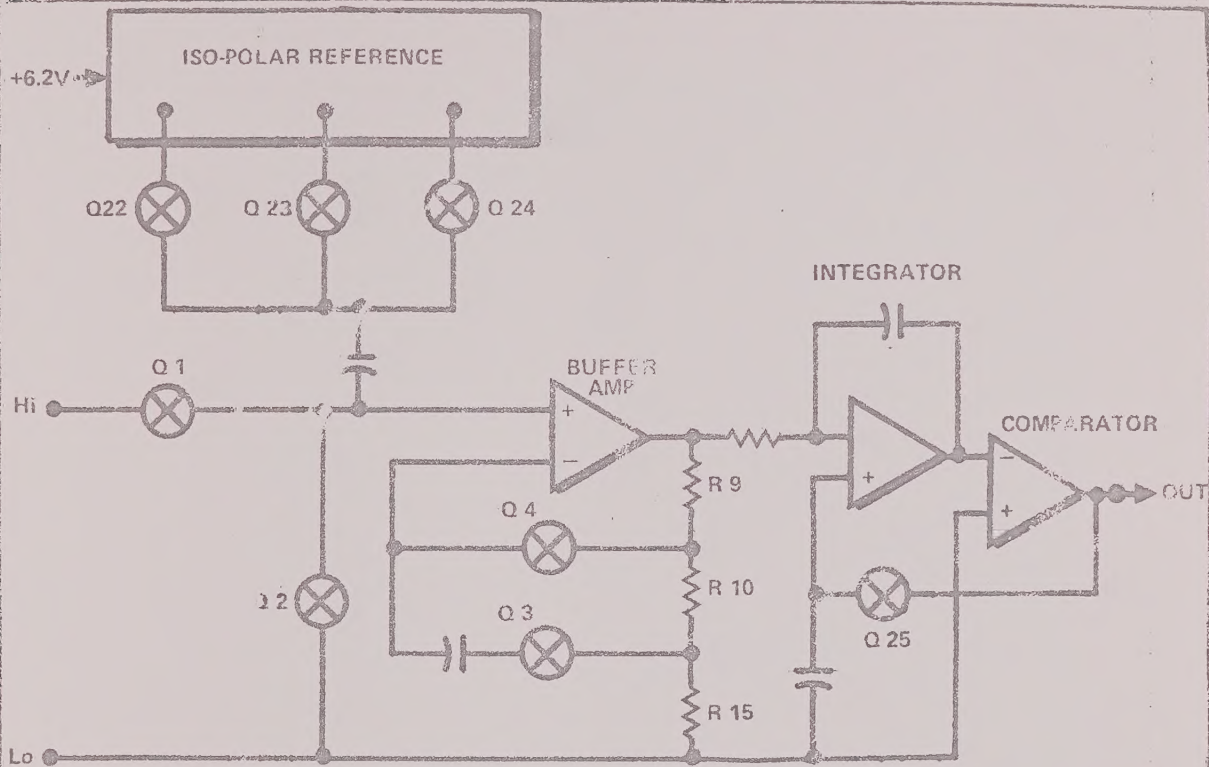

Fig. 4-10C A/D Converter Modification for A1 Option
b. Tri-Phasic A/D Converter (See A/D Converter Modification, Figure 4-10C)
When the 0.1V range is selected the A/D Converter gain is controlled during the three phases of the conversion cycle by the FET switches according to the tabular listing below. The revised schematic of figure 4-10C shows the location of the switches and their effect on the circuit.